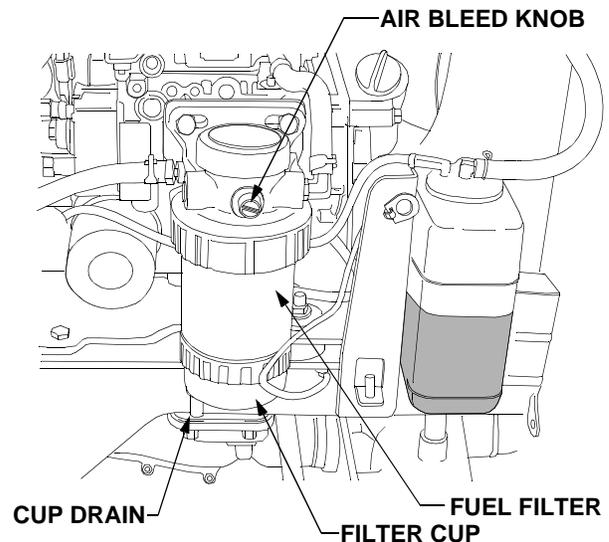

Figure 60
The tractor is equipped with an in-line fuel filter located on the *right* side of the engine. Regularly check the cup at the bottom of the fuel filter for condensate water that has separated from the diesel fuel (Refer to Figure 60). Drain the filter cup as needed, or after every 100 hours of operation. Replace the fuel filter after every 600 hours of operation.
- Place a suitable container beneath the filter cup. See Figure 60.
- Slowly turn the air bleed knob counterclockwise until fuel refills the filter cup and begins to seep out around the bleed knob. Turn the air bleed knob clockwise to close. Refer to Figure 60.